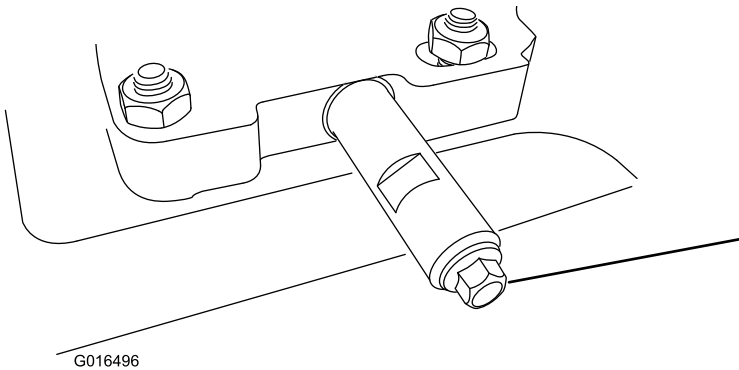

Figure 46
1. Clean the area around the oil-drain cap (Figure 46).